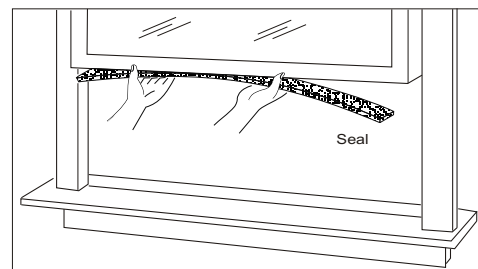

Fig. 3
3. Cut the adhesive-backed seal strip to match the window width. Remove the backing from the seal strip and attach the seal strip to the underside of the bottom window. (Fig. 3)